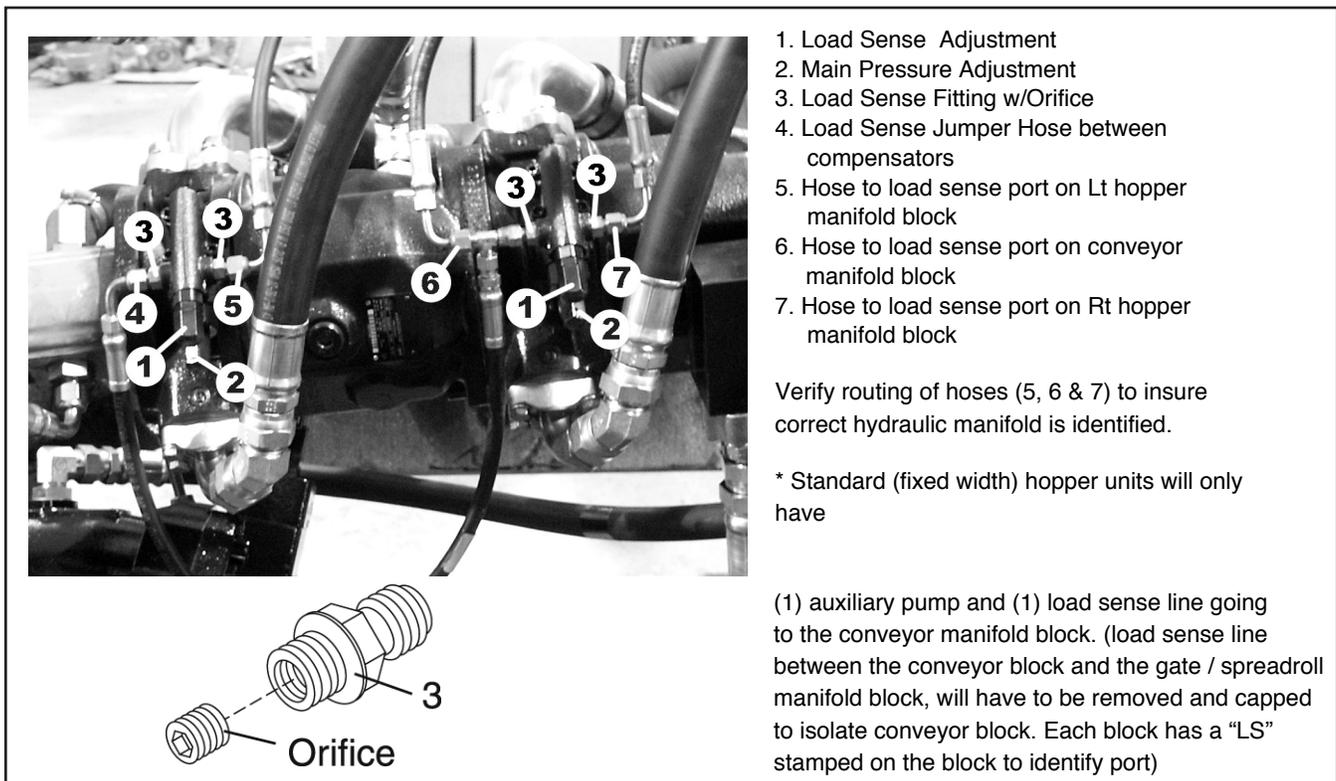

Figure 6
1. Check the orifice in load sense line fitting(s) attached to auxiliary hydraulic pump(s) load sense compensator valve. (See figure 6 item 3).
a. Check and/or set the stand-by pressure. With the engine shut off, remove the load sense lines from the compensators and cap them off. (See figure 6 item 4, 5, 6 & 7) for the location of the lines. Check and set stand-by pressure using correct procedure in operation manual for machine. If proper stand-by pressure is obtained and remains steady with no fluctuating, proceed with step (b). If proper stand-by pressure is not achieved, possible pump and/or compensator problem.